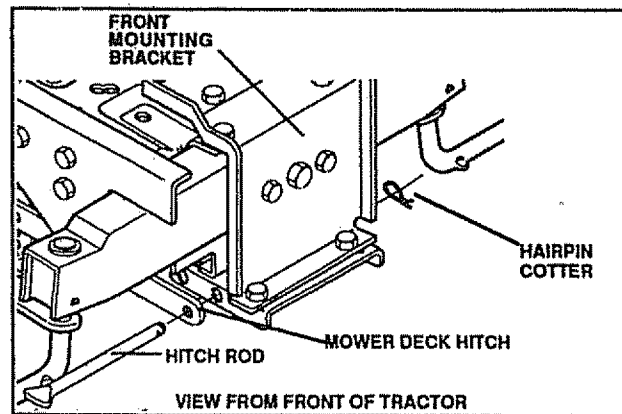

FIG. 18
- Remove hairpin cotter from mower deck hitch and remove deck hitch rod from front hole of the front mounting bracket (see **FIG. 18**).